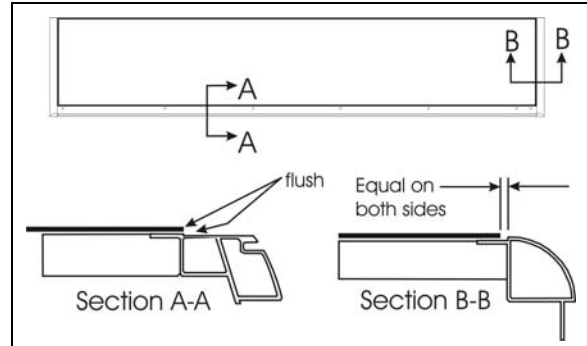
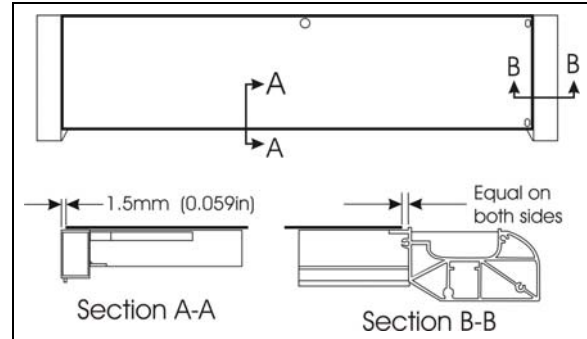

FIGURE 48 : TOP PANEL INSTALLATION
FIGURE 49 : BOTTOM PANEL INSTALLATION
4. Apply Sika Tack+Booster (triangular bead: 9mm width X 6mm high) has shown in FIGURE 47 and glue panel in place as shown in figure 48 & figure 49 ;